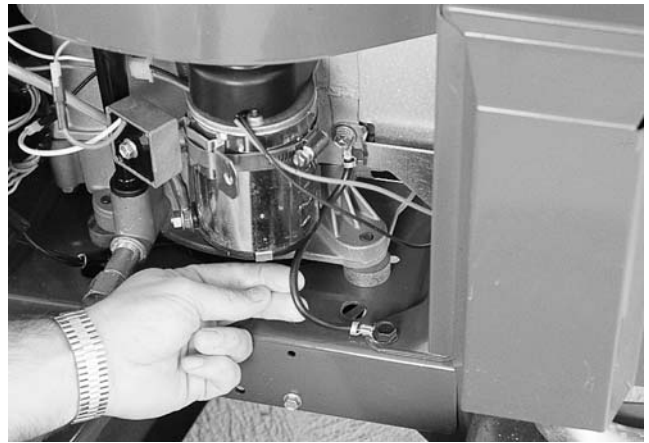

Figure 3-27.
9. The engine may have a ground wire located at the base of the engine, attached to the frame. It must be firmly attached to both the engine and the tractor frame. See Figure 3-27.